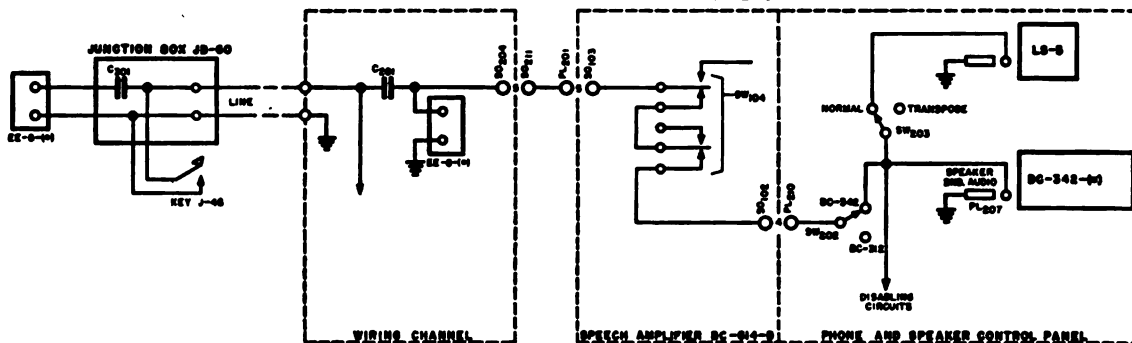

FIGURE 46. FUNCTIONAL DIAGRAM OF REMOTE OPERATION.
- (1) With the transmitter control switch in the TRANS. ON position, speech coming from Telephone EE-8-(*) is fed through switch SW₁₀₄ to the input circuits, allowing modulation of the transmitter from the remote position.
- (2) When the transmitter control switch SW₁₀₄ is set at RECEIVERS TO EE-8 the output of one of the receivers is fed through switch SW₁₀₄ back to the line where it appears across the earpiece of the telephone.
- (3) With switch SW₁₀₄ in the center position, the field telephone is not connected either to the receiver output or to the transmitter input. The entire combined circuit for remote c-w operation is shown in the simplified circuit diagrams, figure 46.